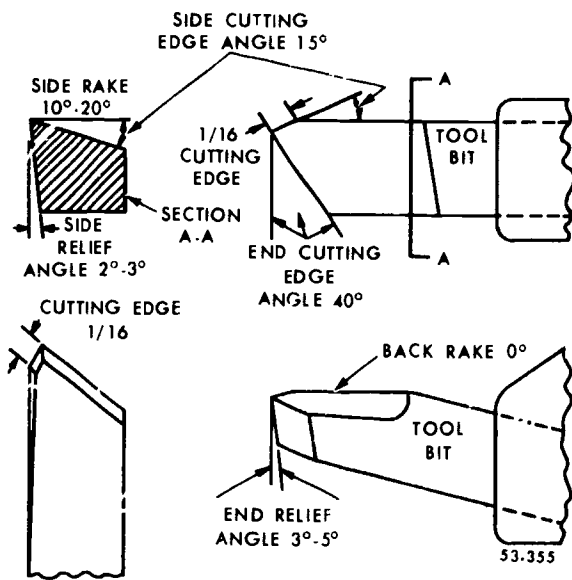
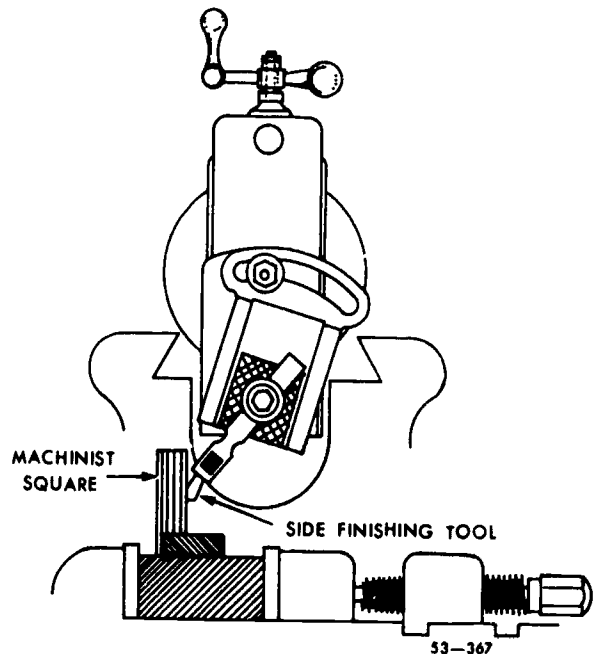

Figure 2-8 Side finishing tool angles
Figure 2-19 Aligning cutting edge with a machinist square
**Side finishing.** The side-finishing tools, shown in figure 2-8, are ground as right-hand and left-hand tools and are used to finish vertical surfaces. You can also use them for cutting or finishing small horizontal shoulders after you have taken a vertical cut.
If a fine finish is required, first rough the surface with a roundnose tool and leave no more than 1/64-inch for finishing. Then install a side finishing tool and proceed in the following manner. Mount a side finishing tool in a straight toolholder. The toolholder should be positioned in the toolpost so that the 1/16 inch position of the tool's cutting edge (refer to fig. 2-8) is parallel to the surface to be finished. The best way to position the cutting edge is with a machinist's square, as shown in figure 2-19. Set the machine to the proper length of stroke. Reduce the CFS to about 30 feet per minute to protect the small cutting edge. With the tip of the tool touching the bottom surface of the corner or shoulder, set the vertical feed dial at zero. NOTE: Omit this step when you use the side-finishing tool to finish the ends of the work. To plane wide, deep grooves, leave 0.005 inch on the bottom